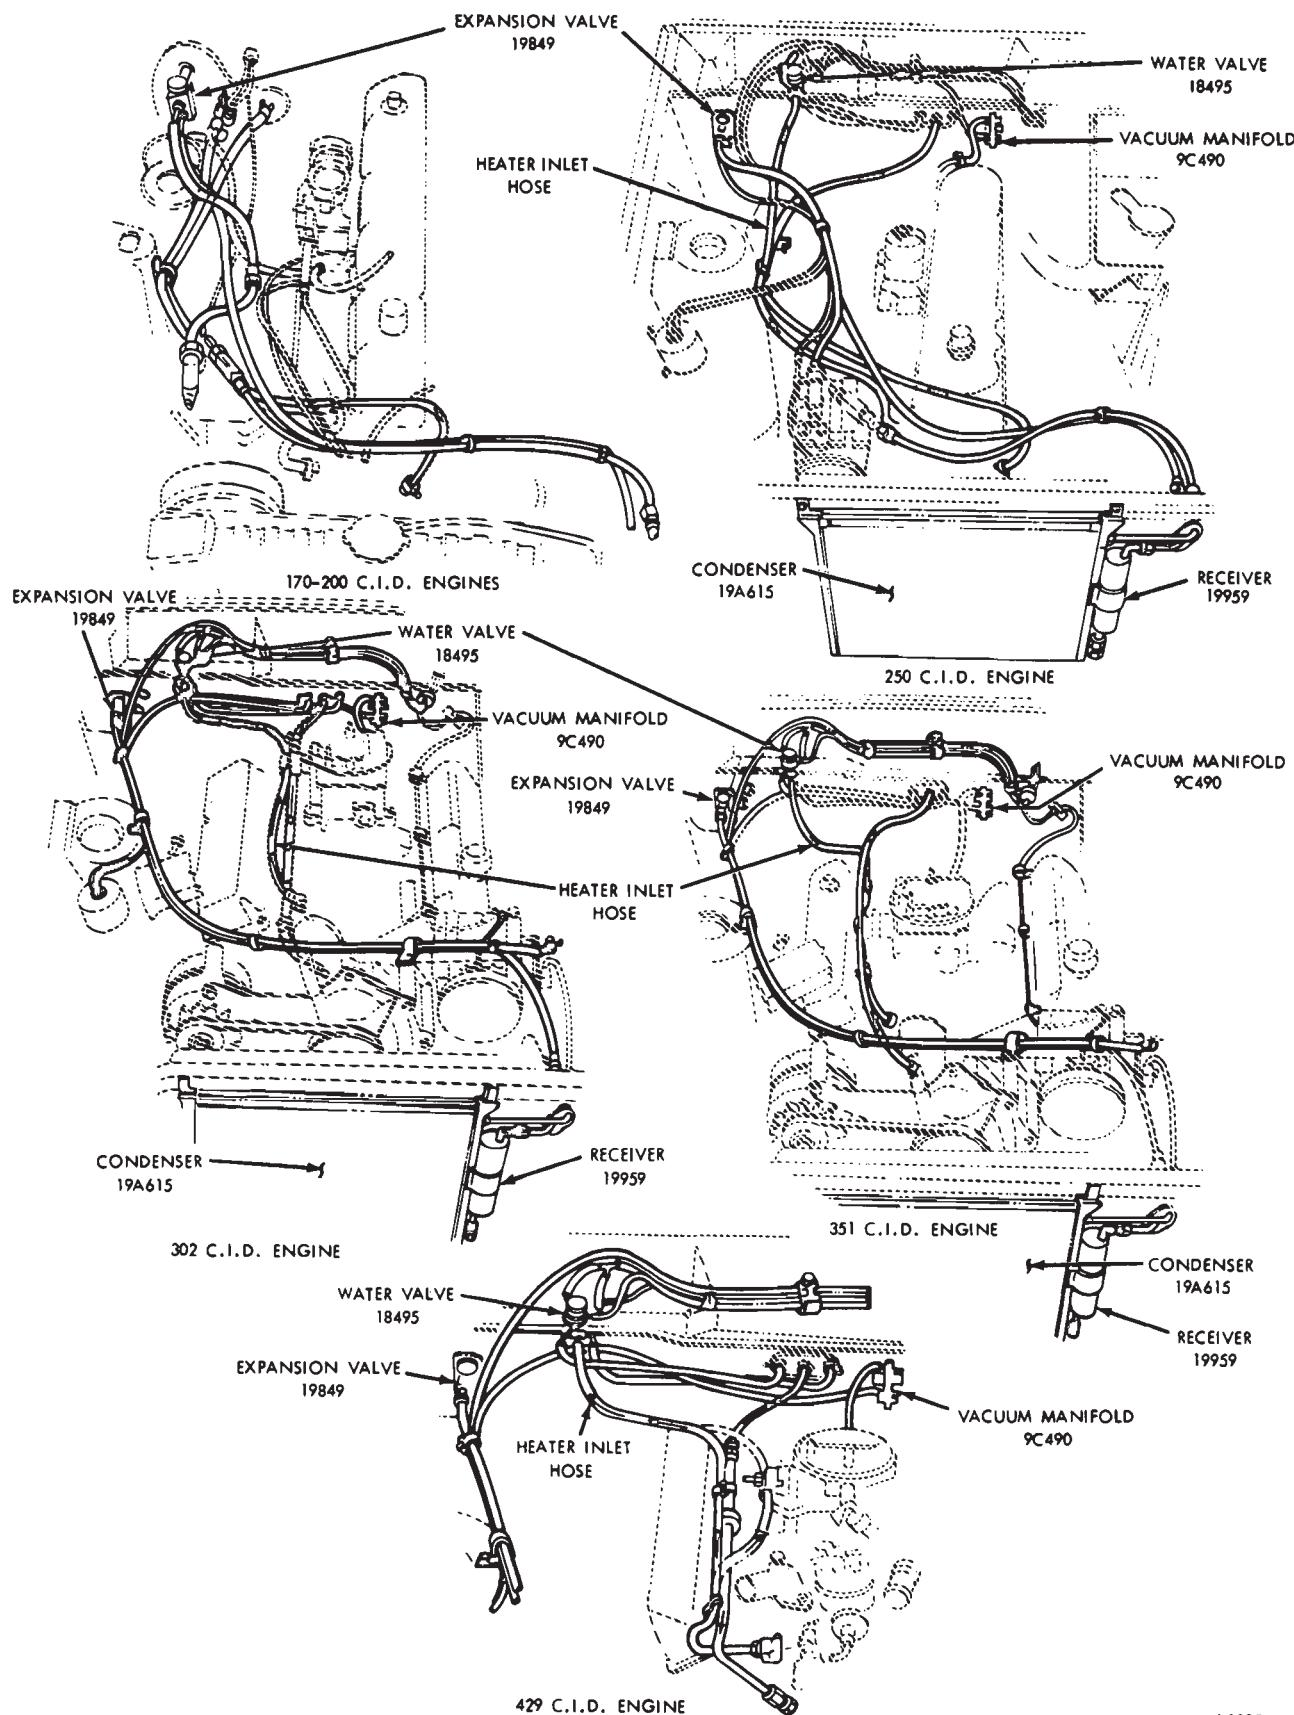

FIG. 53—Heater and Refrigerant Hose Routings—Falcon, Maverick, Fairlane and Montego
6. Disconnect the three heater hoses at the dash panel (Fig. 53).
16. Connect the two clutch wires to the clutch vacuum switch (Fig. 53).
17. Connect the three heater hoses to the heater core at the dash panel as shown in Fig. 53.
routings are shown in Fig. 53.